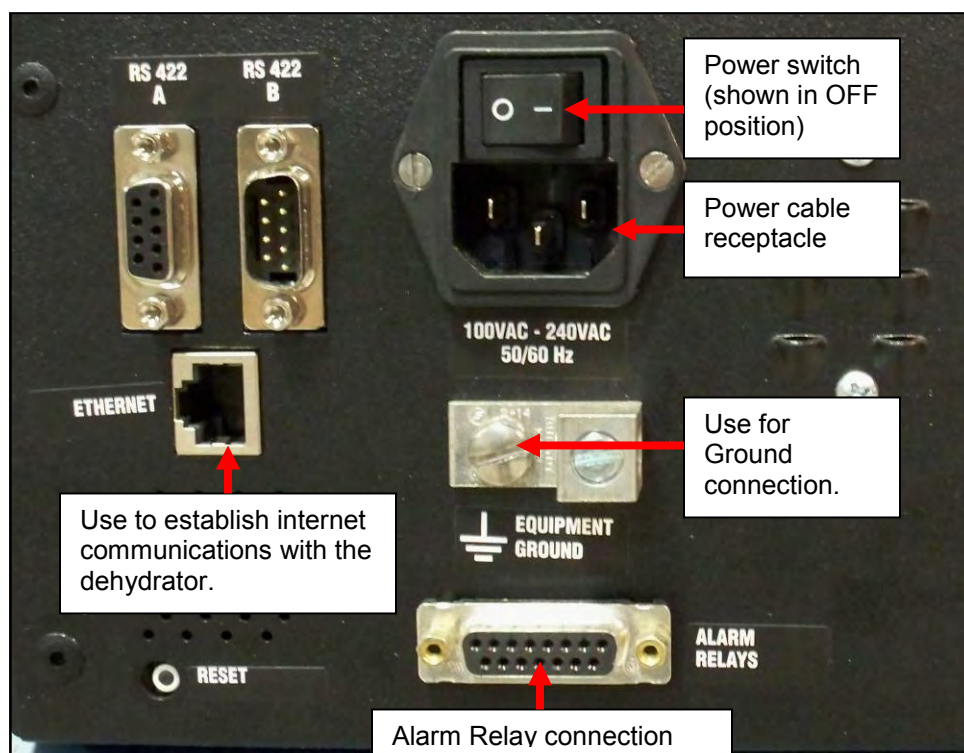

Figure 6. ADH NETCOM AC VERSION REAR PANEL DETAIL.
5. Prior to connecting the unit power cable, first ground the chassis by connecting the ground lead to the Equipment Ground terminal on the back of the unit. Refer to Figure 6. The three-prong power cable (on AC units) also provides ground protection, but this connection provides redundant ground protection for increased safety.